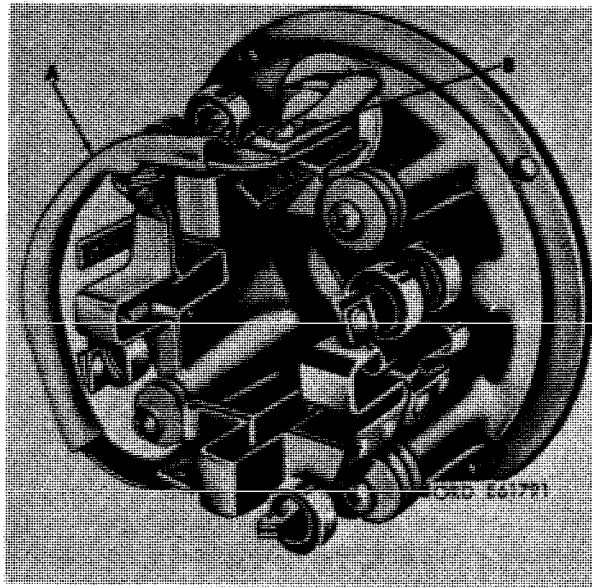

Figure 3-35. Position jumper on brush rigging assembly.
b. Position jumper coil (A), as shown in figure 3-35, on brush rigging assembly and hold it in position using one screw (B).
Remove screw (B, fig. 3-35) before securing brushes.